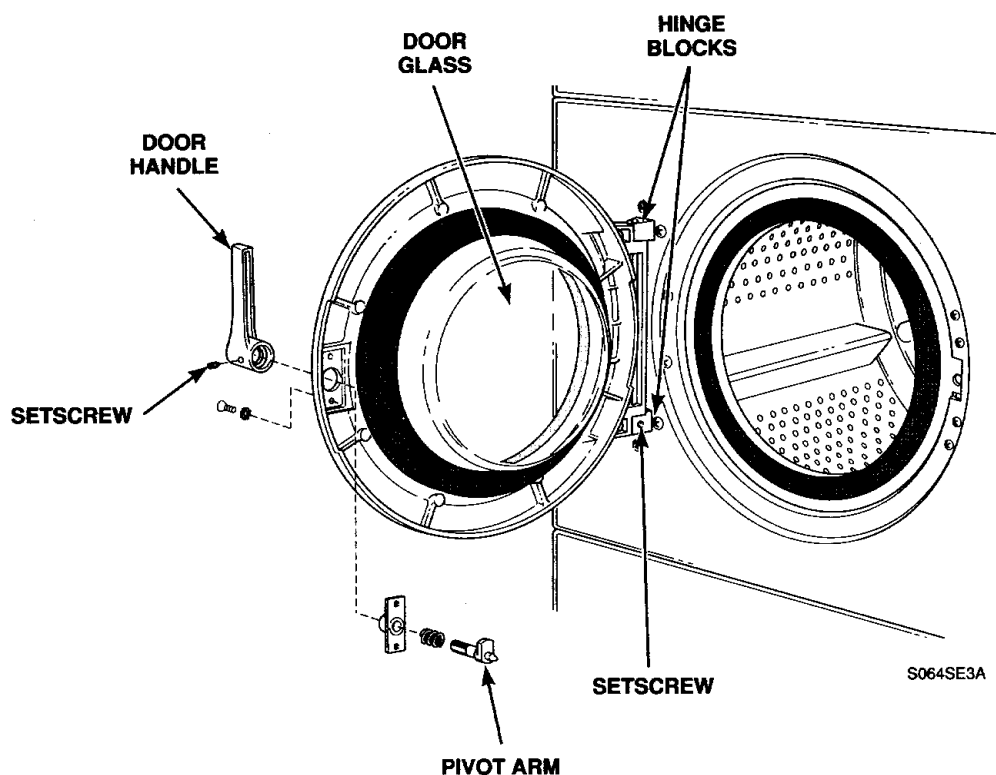

Figure 9
5. PIVOT ARM AND HANDLE (Refer to *Figure 9*)
6. LOADING DOOR ASSEMBLY (Refer to *Figure 9*)